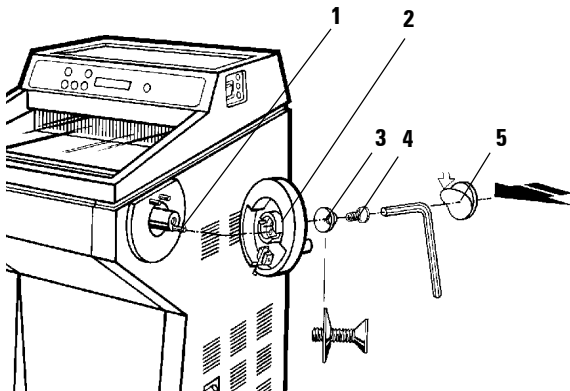

Fig.18
- Insert the pin (1) of the handwheel shaft in to the hole (2) of the handwheel.
- Mount the spring washer (3) on the screw (4) as shown in **Fig. 18**.
- Tighten the screw (4) with an Allen key (5 mm).
- Attach the cover disc (5) (self-adhesive).